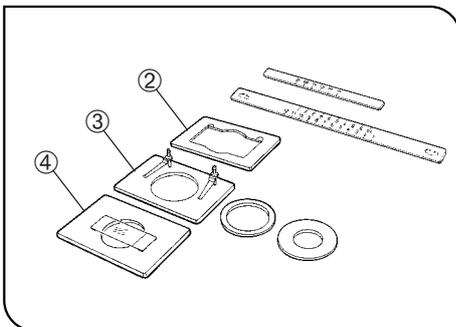

Fig. 15
Ⓞ To secure other vessels than microtiter plates, various optional holders are available. A Terasaki plate holder ② is available for holding Terasaki plates (72-well, or 60-well). When using this, it is necessary to replace the stage scales with those provided with the plate holder. Petri dish holder ③ is available for 35 mm, 54 mm and 65 mm diameter petri dishes, and a slide glass holder ④ is available for holding slide glass. (Fig. 15)